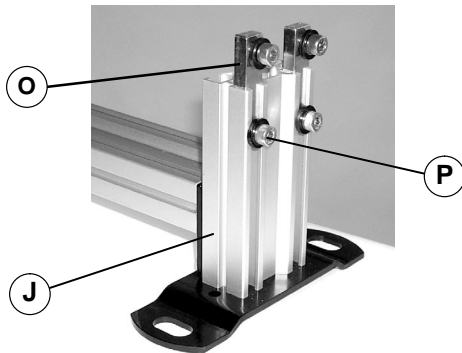

Figure 4
Failure to secure tier joint screws (P of Figures 4 and 6) may cause tube joining bar and conveyor sections to drop down, causing severe injury.
4. Install tube joining bar assembly (O of Figure 4) at top of leg on base assembly (J). Half of tube joining bar assembly must extend above leg, as shown. Tighten screw (P) to 130 in-lbs (15 Nm).